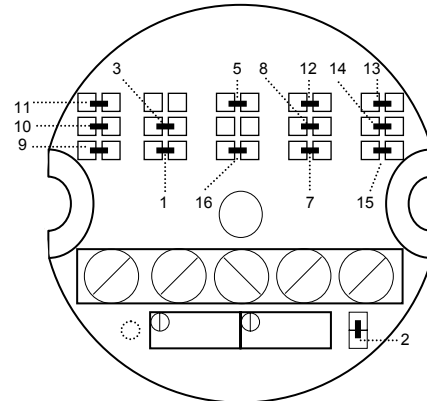

Fig. 6
The INPUT and RANGE of the 405000 transmitter can be reconfigured by opening or soldering internal jumpers (Fig. 6). J-type thermocouples (Fe-Const) have 4 ranges, K-type thermocouples (NiCr-NiAl) have 3 ranges, and Pt 100 RTDs have 40 ranges. See Table of ranges in next section.
- 3) Select RTD or Thermocouple via Jumper No. 2 (Fig. 6), located between the terminals. For **RTD (Pt 100)** inputs, open Jumper No.2 and for **Thermocouple (T/C)** inputs close Jumper No.2
- 4) For specific range configurations and Jumper locations, refer to the Table in the next section noting which jumpers are to be opened or soldered. A black dot indicates that that jumper must be soldered (refer to Fig. 6 below for Jumper locations).